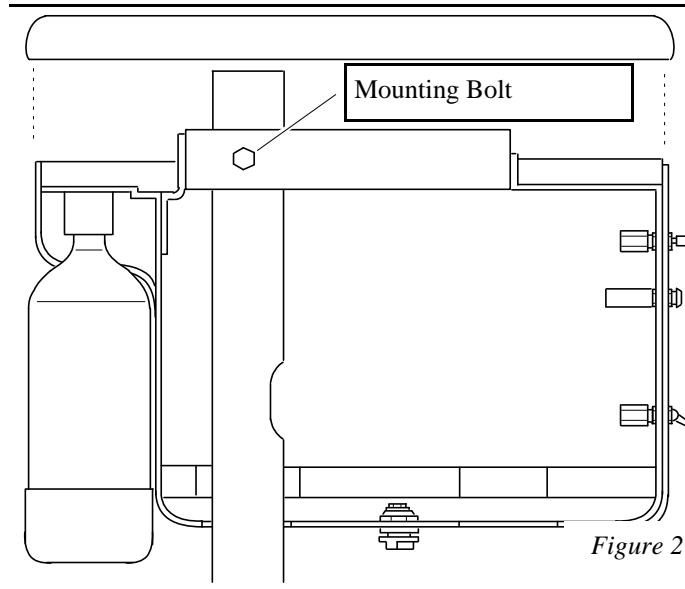

Figure 2
3. Install the post mount utility center on the post (Figure 2).